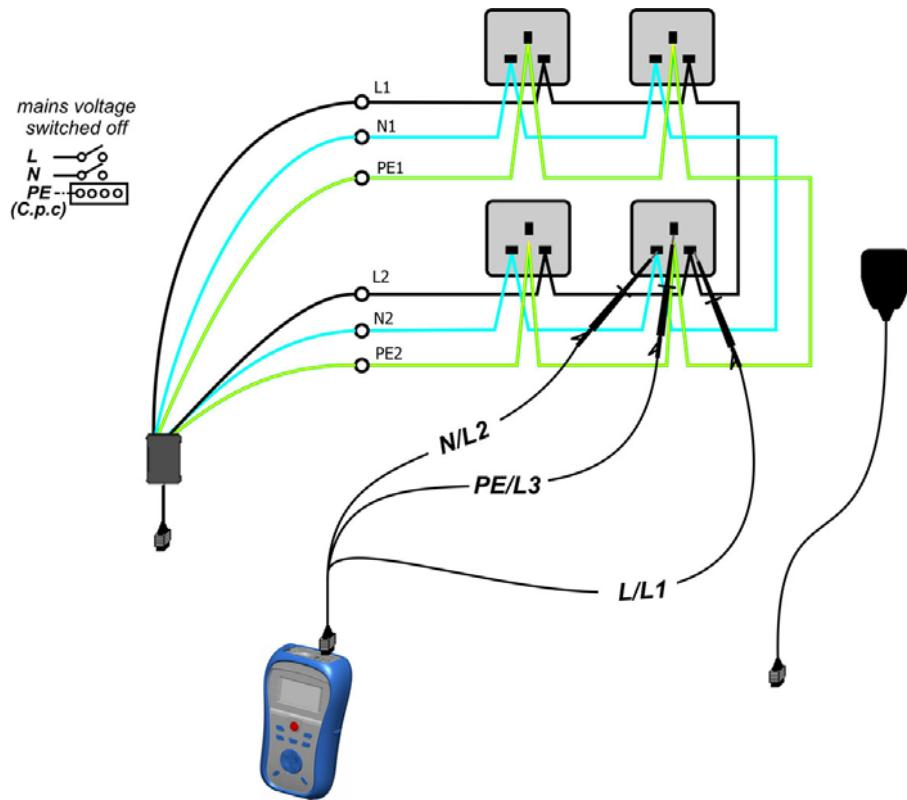

Figure 5.18: Step 2 - measurement of resistances R_1+R_2 , R_1+R_N
- Easy switch** must stay connected to the final ring circuit. The electrical installation must be de-energized during the test (see *figure 5.18*).